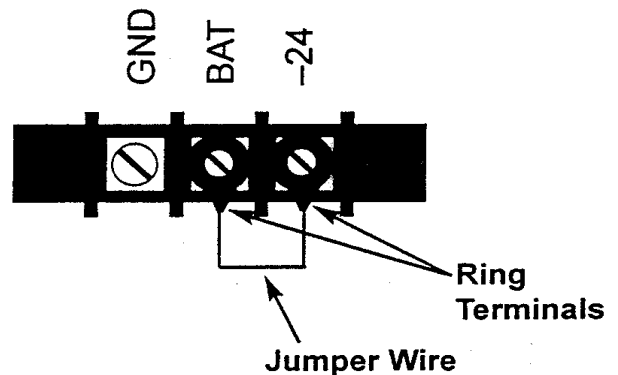

Figure 2: Output Terminal
1. Mount the enclosed bracket to a non-metallic wall or backboard near the Lyte Lynx® card cage using (2) 1/4-20 screws.
3. The power supply is shipped with a jumper wire with ring terminals on each end (one end of the jumper wire is pre-connected to the -24 terminal). Connect the other end of the jumper wire to the middle (BAT) terminal before applying input power. See Figure 2.